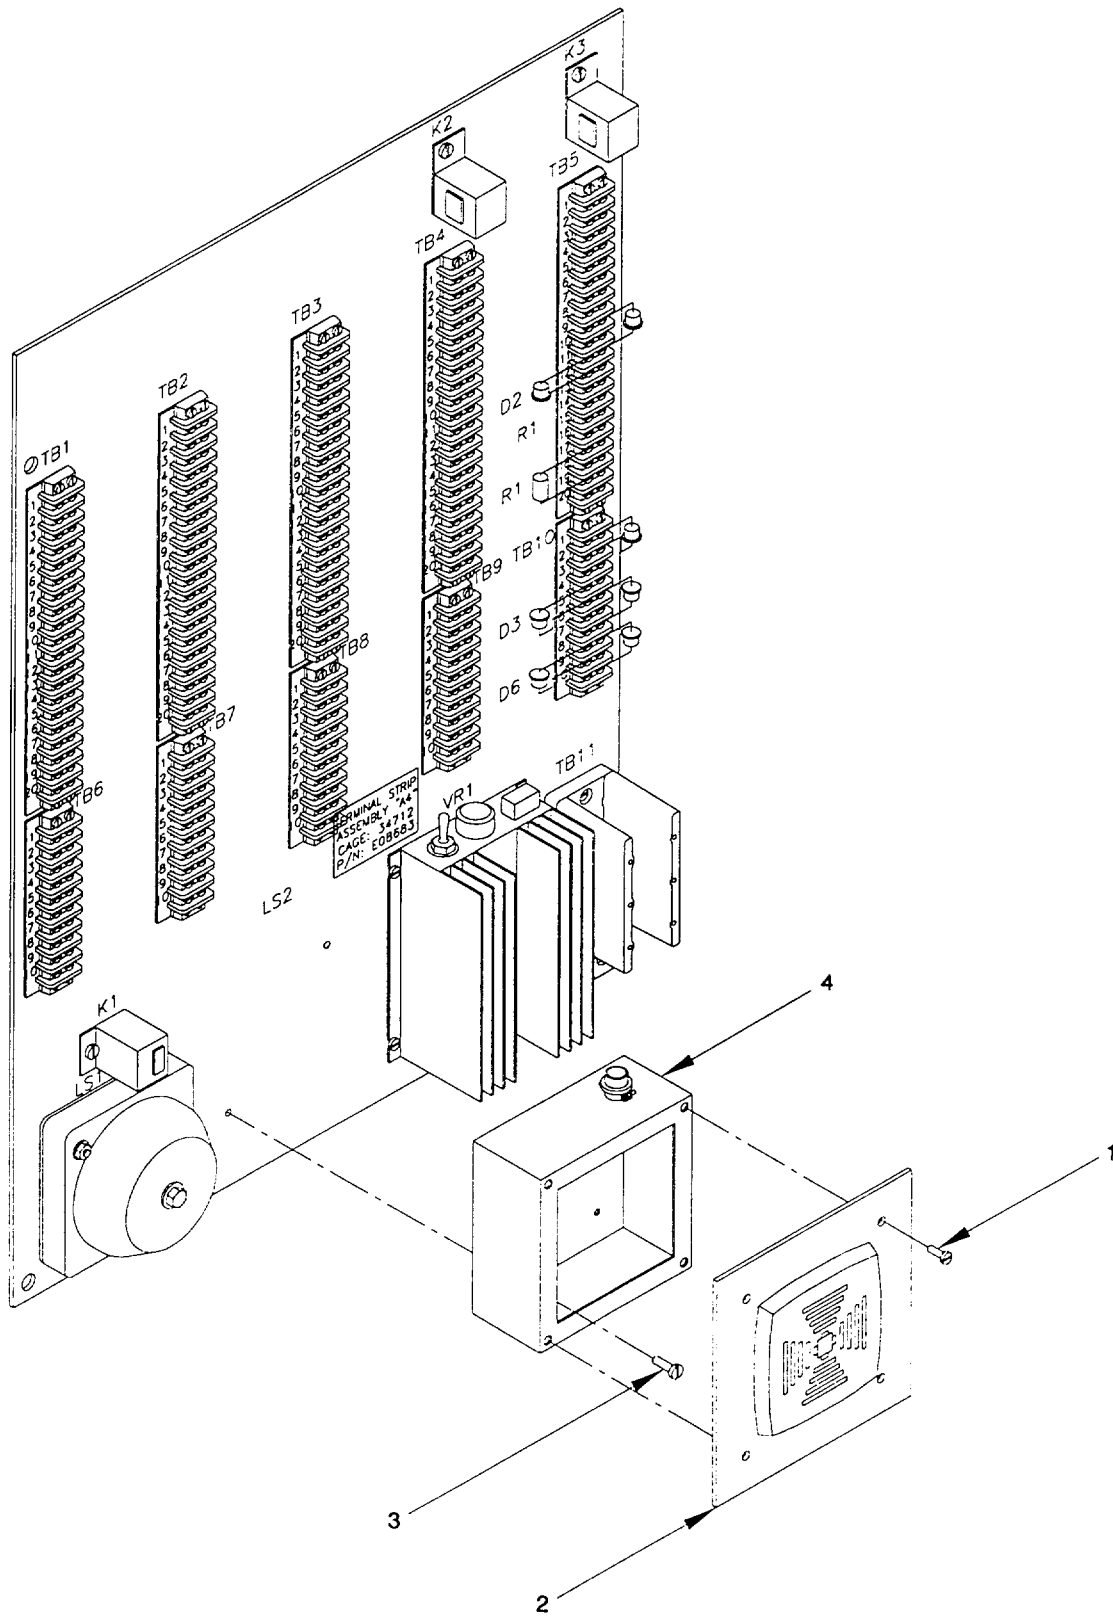

Figure 2-136. Fire Alarm Horn, Terminal Strip, Remove/Install.
WARNING**When performing maintenance, the electrical system should be disconnected and tagged OUT OF SERVICE to prevent inadvertent operation. Failure to comply can result in serious injury to personnel.**a. Remove. (figure 2-136)
- (1) Remove round head screws (1) (supplied with horn) which hold the horn (2) to the junction box (4).
- (2) Tag and disconnect the wiring from the horn (2).
- (3) To remove the junction box (4) from the terminal plate, remove the round head screw (3).
b. Install. (figure 2-136)
- (1) Apply antiseize compound to round head screws (3). Position junction box (4) on terminal plate and secure with round head screws (3).
- (2) Connect wiring to horn as previously tagged. Refer to Terminal Strip "A4" Assembly in Appendix G for wiring diagrams. Use tie wraps and mounting bases to secure any loose wiring.
- (3) Apply antiseize compound to four round head screws (1). Position horn (2) on junction box (4) and secure with round head screws (1).